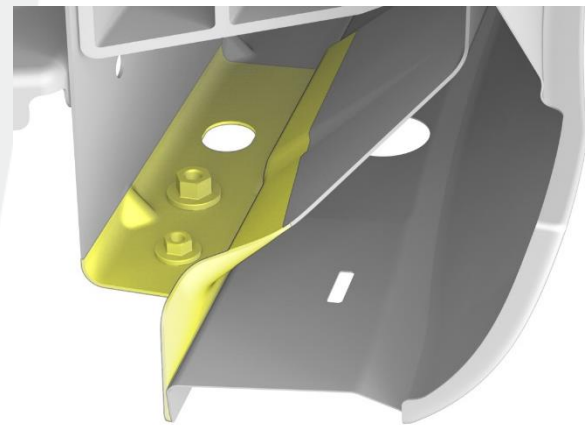

Figure 4 (Unacceptable repair area)
- If there is damage to the side sill inner, side sill outer, or jack pad bracket, or the damage is too severe to be completed in a Service Center (Figure 4), discontinue this procedure, reinstall any component that was removed for access, and sublet the repair to a Tesla Approved Body Shop.